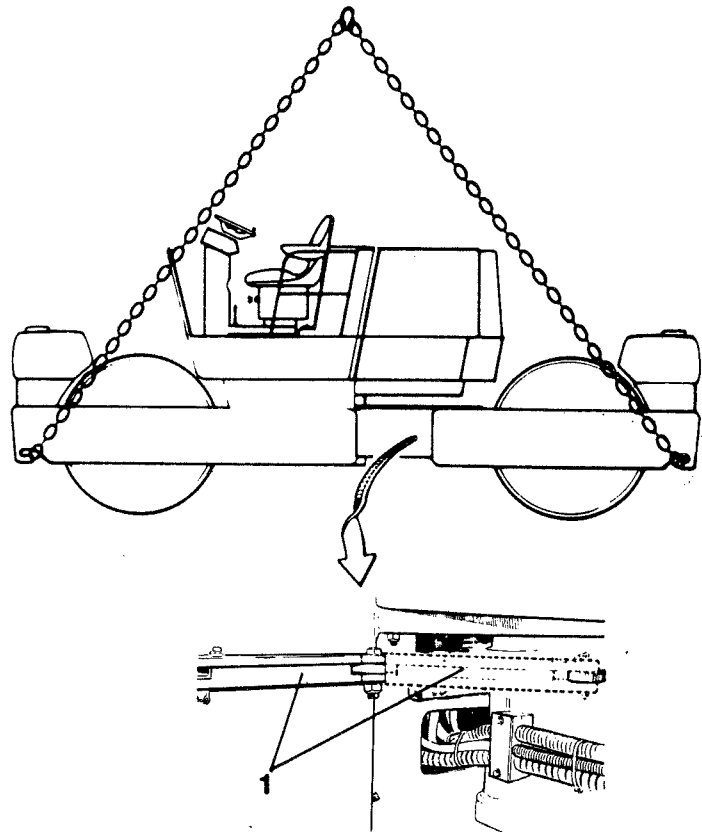

Fig 22
Before lifting the roller, ensure that the articulated joint is prevented from moving, by swinging out the arm and locking it across the articulated joint (see fig 22).
Do not forget to reset the locking device (1), fig 22, before starting the engine.